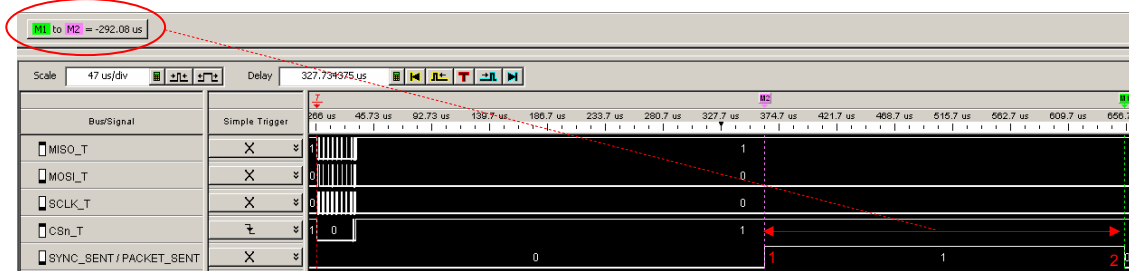

Figure 1. Error Free TX (IOCFGx = 0x06)
After the sync word is transmitted (1), 9 more bytes are sent: 1 length byte + 6 payload bytes + 2 CRC bytes. This takes $(9 \cdot 8) \cdot (1 / 250000) = 288$ [us]. In Figure 1, the GDOx signal is high for about 292 us. The difference between the theoretical value and the measure value is due to internal delays in the signal path. The radio will be in the state determined by MCSM1.TXOFF_MODE after GDOx is de-asserted (2).